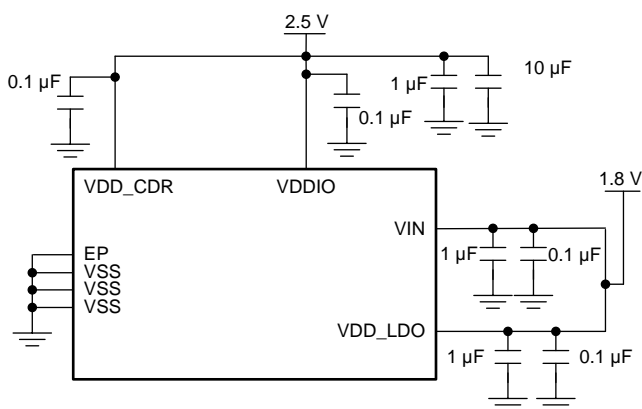

图 40. Typical Connection for Dual 2.5 V and 1.8 V Supply
- **Dual Supply Mode (2.5 V and 1.8 V):** This mode provides lower power consumption. In this mode, 1.8 V is connected to both VIN and VDD_LDO. VDD_CDR, and VDDIO are powered from a 2.5 V supply. See 图 40 for more details.